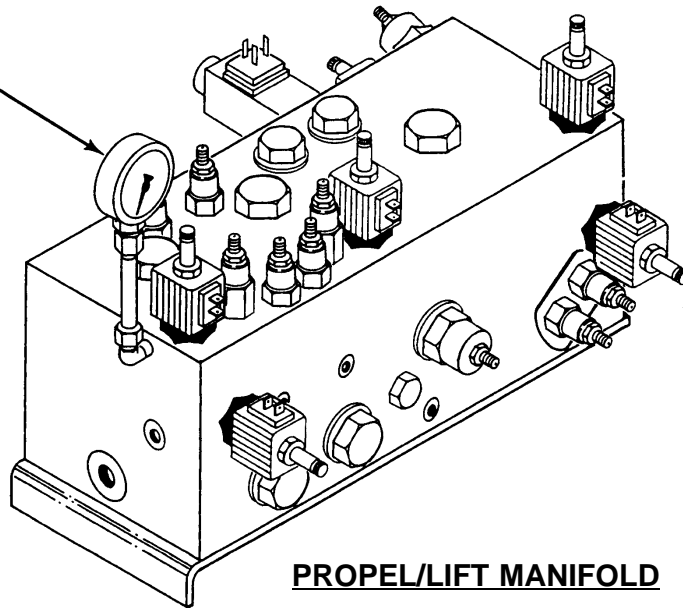

Figure 3
- (1) Remove the bolt that secures the power unit in the closed position, and swing the power unit open to gain access to pumps and valves.
- (2) Have assistant start the power unit, retract the stabilizers by setting the MODE SWITCH to DRIVE, and set PARKING BRAKE SWITCH to ON. VERIFY this by observing that the STABILIZERS DOWN INDICATOR is OFF, and the PARKING BRAKE INDICATOR is ON. ALL GUIDES MUST BE IN THE UP POSITION.
- (3) Have assistant shut off the engine.
- (4) Remove the 0-345 bar (0-5000 psi) gauge (Figure 3) at the end of the propel/lift manifold, and replace it with a 0-40 bar (0-600 psi) gauge.
- (5) Disconnect load sense hose connected to pump. Plug the end of the hose.
- (6) Have assistant start the power unit and allow 2-3 minutes for the system to stabilize.
- (7) Observe the pressure gauge for indicated pressure of 17 bar (250 psi).
- (4) Locate the pressure gauge at the right of the propel/lift manifold (Figure 3).
- (5) Open the right-hand front door of the power unit to gain access to the compensator controls on the pumps.